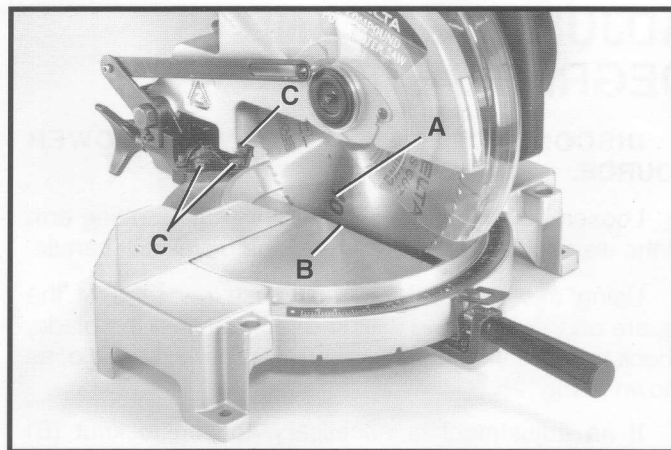

Fig. 21
3. Lower the cutting arm. The saw blade (A) Fig. 21, should be parallel to the left edge (B) of the table opening.
4. If an adjustment is necessary, loosen three screws (C) Fig. 21, and move the cutting arm until the blade is parallel with the left edge (B) of the table opening. Then tighten the three screws (C).